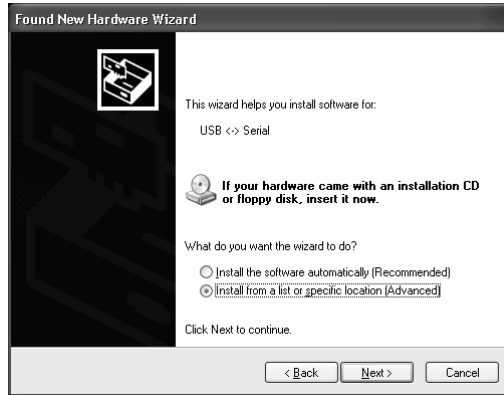

Figure 6 : Select “Install from a list or specific location”
7. The next screen prompts you to point the Wizard to the location of the USB driver. This driver can be located in the Alpha Link 600 installation CD. Select “Install from a list or specific location” (Figure 6). Click “**Next**” to proceed.